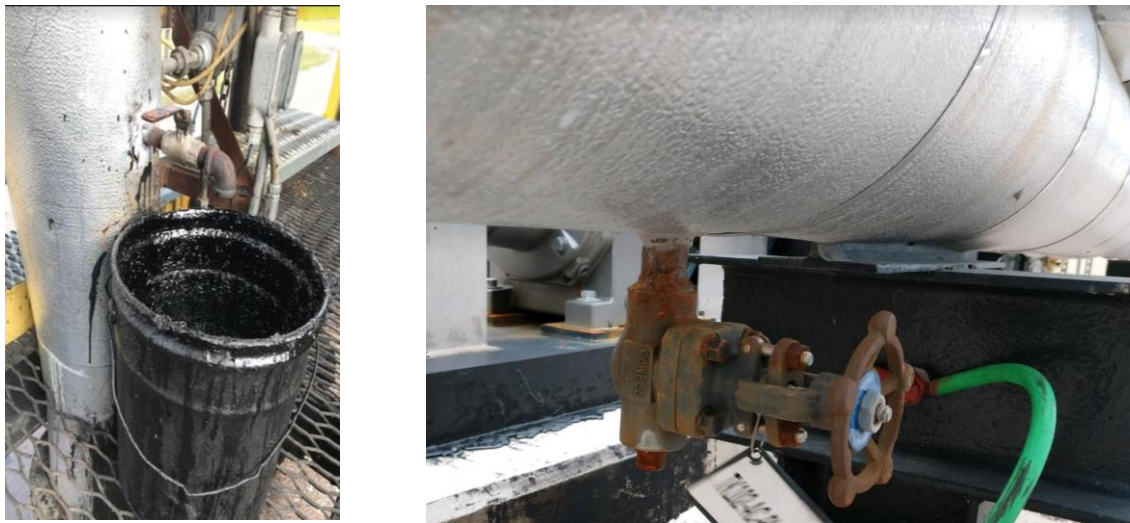

Figure 4
- 6.1 A sampling pipe of not more than 1/8 the diameter of the pipeline, with a drain cock used to regulate the flow through it, is required. Figure 4 shows common types of valves used for sampling liquid asphalt from pipelines. The sampling pipe should be inserted into the pipeline at a right location with its opening turned to face the flow of the liquid. **In case of mix plant, sampling pipe must be located:**